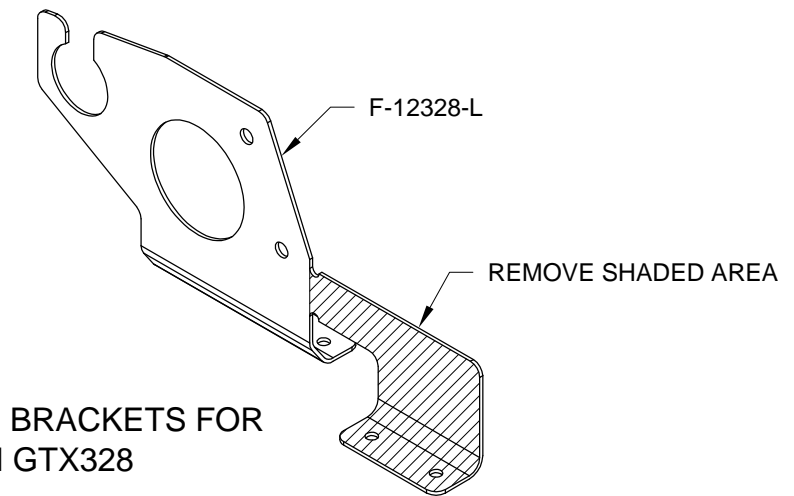

FIGURE 2: TRIMMING BRACKETS FOR THE GARMIN GTX328
Step 5: Remove aft section of the F-12328-L & -R Brackets by removing the shaded area shown in Figure 2.